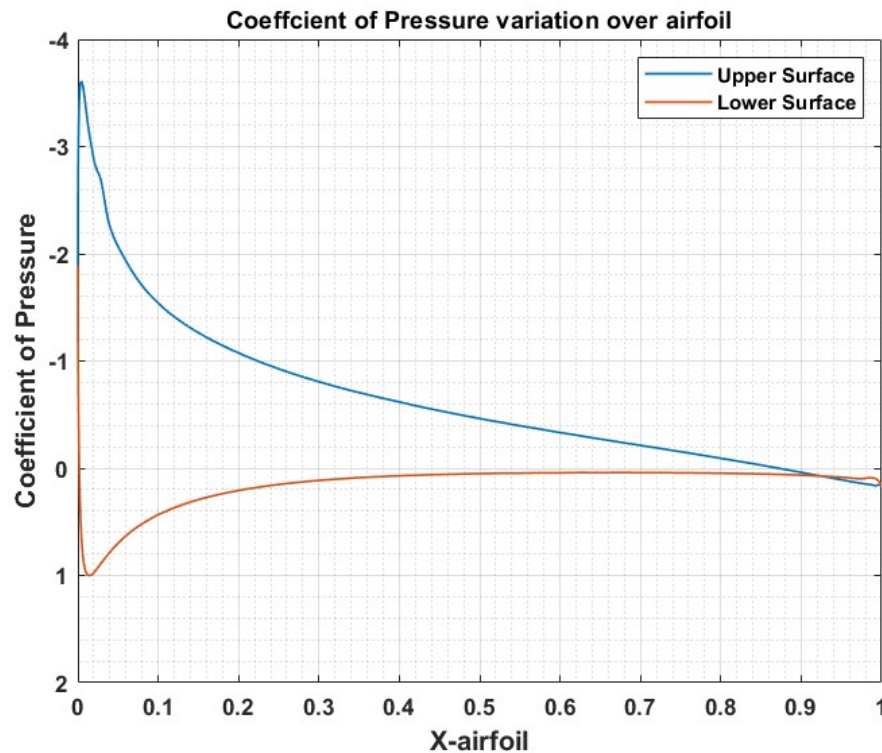

*Fig:2 – The Computational domain*
- Fig 2 shows the computational domain. The grid is refined in the near-regions of airfoils to capture the viscous sublayer in the turbulent boundary layer. In the far-away regions, the grid is coarser to reduce computational time.